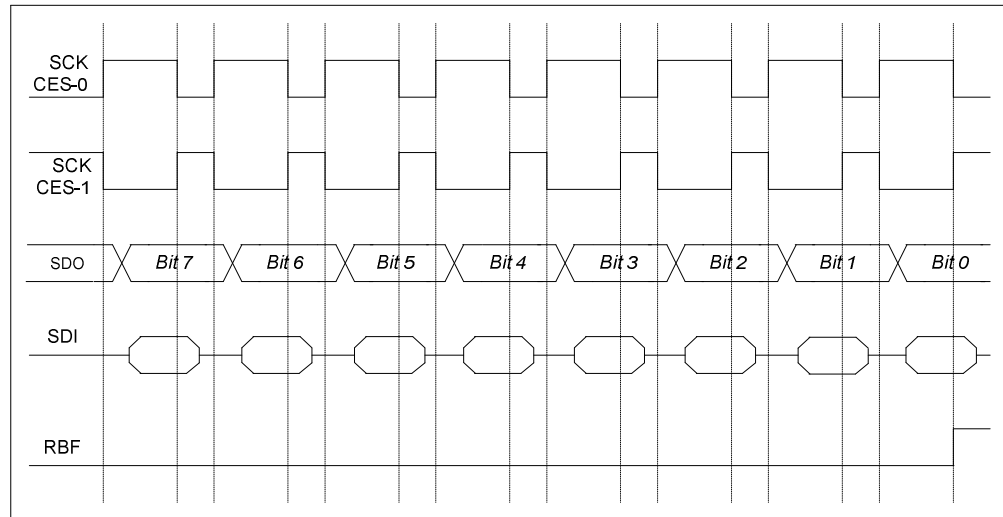
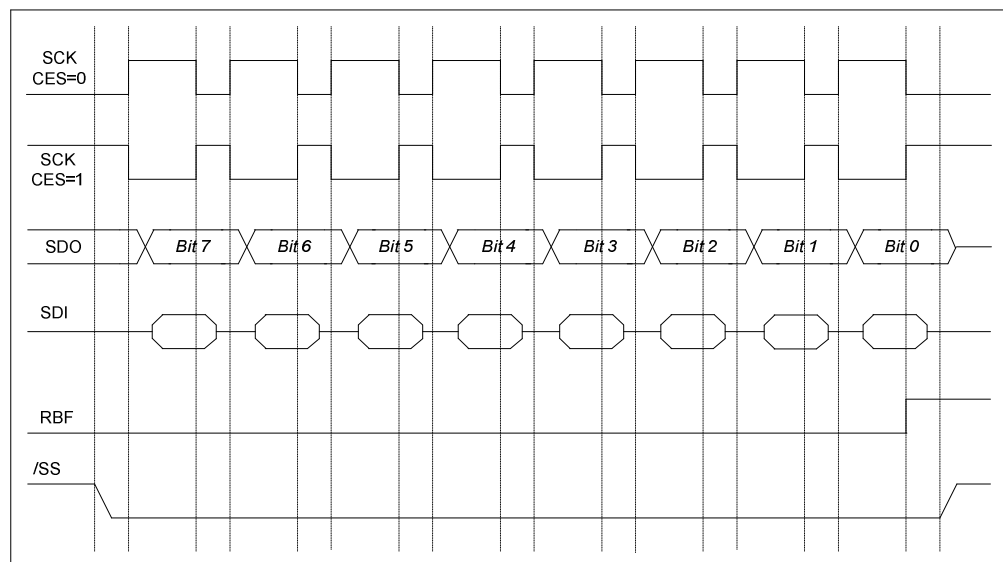

Figure 6-42 SPI Mode with /SS Disable
Figure 6-43 SPI Mode with /SS Enable
- Timing is shown in Figure 6-42 and 6-43
The SCK edge is selected by programming bit CES. The waveform shown in Figure 6-42 is applicable regardless whether the EM78Fx64N is in master or slave mode, with /SS disabled. However, the waveform in Figure 6-43 can only be implemented in slave mode, with /SS enabled.